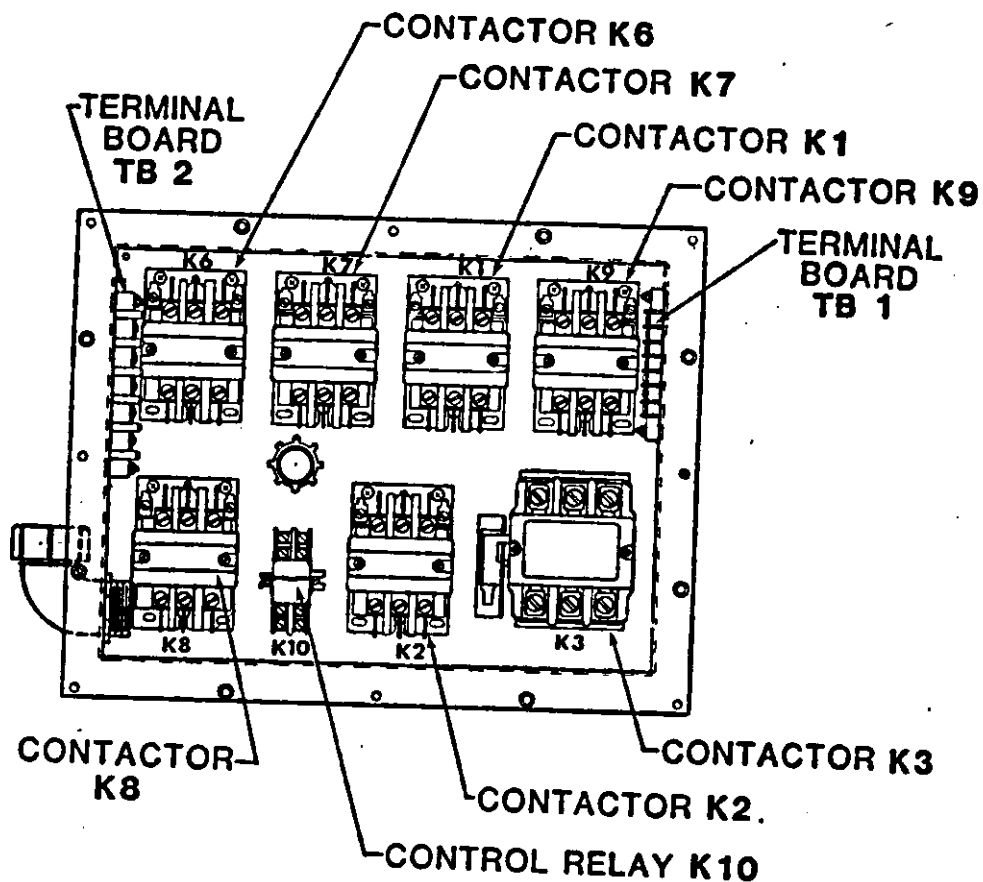

Figure 5-18. Identification of Internal Junction Box Components
- c. See figure 5-18 for identification of internal components.